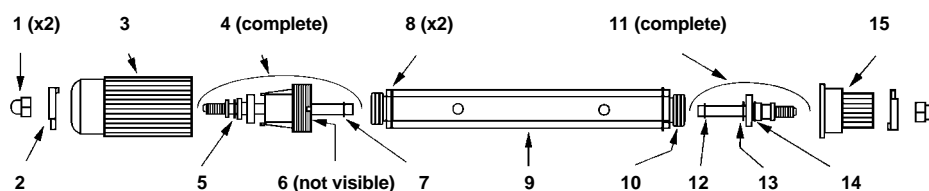

Fig. 2. Diagram of column hardware.
- **Disassembling the column (Refer to Figure 2).**
1. Unscrew and remove the end-cap (1).
2. Unscrew the holder (3) for the adjustable adaptor (4). With the locking clip (2) in the correct position (locking tag pointed upward), the adjustable adaptor may be pulled up.
4. Gently pull the adjustable adaptor (4) all the way up without turning it.
5. Grip the top (5) and bottom (15) end-pieces firmly and unscrew them.